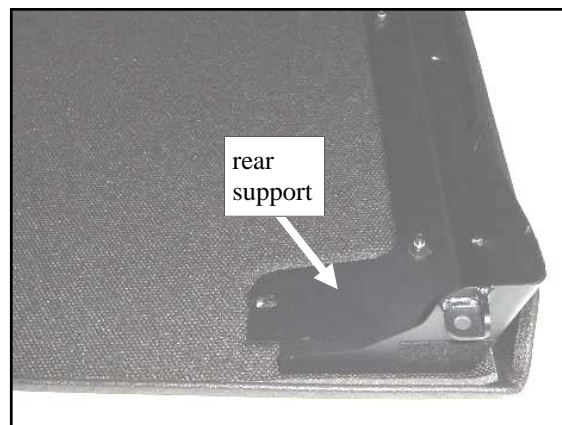

Fig. 3.2 (enlarged view of rear right corner)
3.2 Per figures 3.2, loosely assemble the rear panel support to the roof using seven 5/16-18 x 1" long button head bolts, seven plastic washers, fourteen 5/16" steel washers, and seven locknuts. The nuts should just be finger tight at this time.